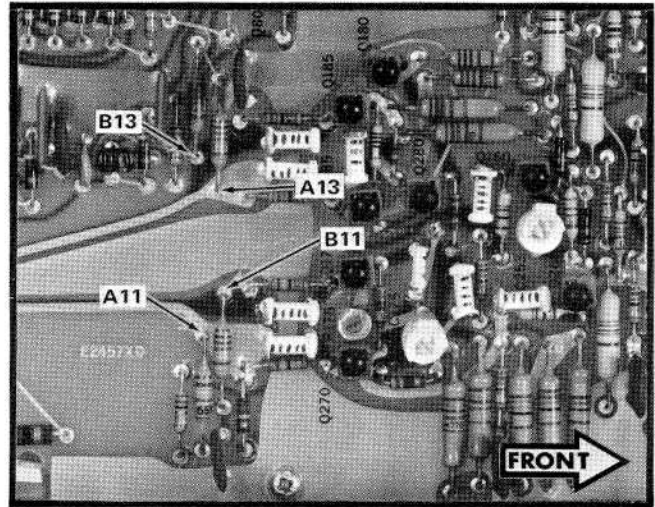

Fig. 5-8. Location of voltage check points for step 17.
c. Connect the digital voltmeter between B11 and A11 (top of R171 and bottom of R271; see Fig. 5-8). Adjust the POSITION control for a voltage null (zero volts). Do not move any controls after the voltage null is set.
d. Change the voltmeter leads to B13 and A13 (top of R186 and bottom of R284; see Fig. 5-8).